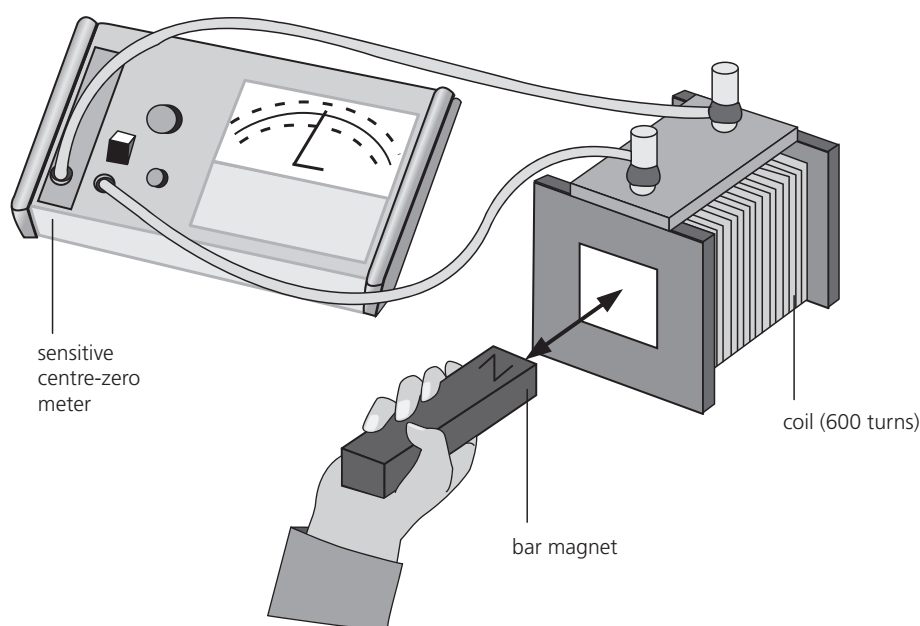

Figure 2
- 1 Connect the 600-turn coil directly to a sensitive centre-zero meter as shown in Figure 2.